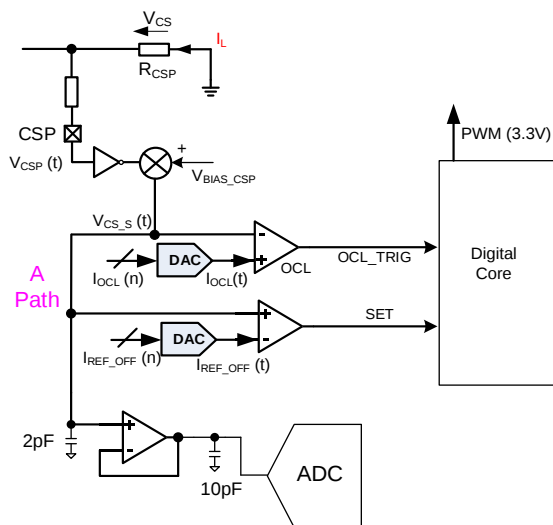
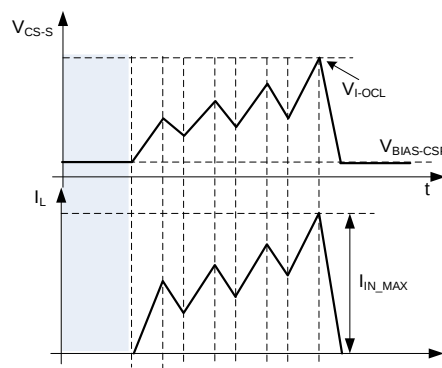

Figure 17: CSP Pin Current-Sense Circuit
Figure 18: V_{CS_S} Voltage Waveforms
The PFC inductor current is sensed by the CSP resistor (R_{CSP}), and produces a negative voltage (V_{CSP}). This value is internally converted into a positive voltage with a bias (V_{CS_S}) (see Figure 17 and Figure 18). The ADC samples V_{CS_S} when the PFC gate turns off. V_{CS_S} can be calculated with Equation (2):
Figure 17 shows the current-sense circuit on the CSP pin.
Figure 18 shows the V_{CS_S} waveforms.